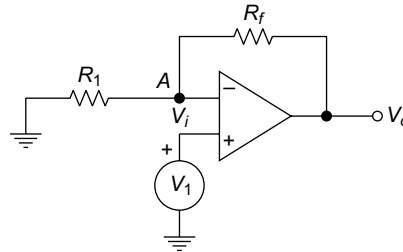

Fig. 4.37
31. Figure 4.37 shows an operational amplifier circuit. The operational amplifier has slew rate about 0.5 V/ μs , gain is 9 and output saturation voltage levels are $\pm 10 \text{ V}$, maximum frequency is 50 kHz.